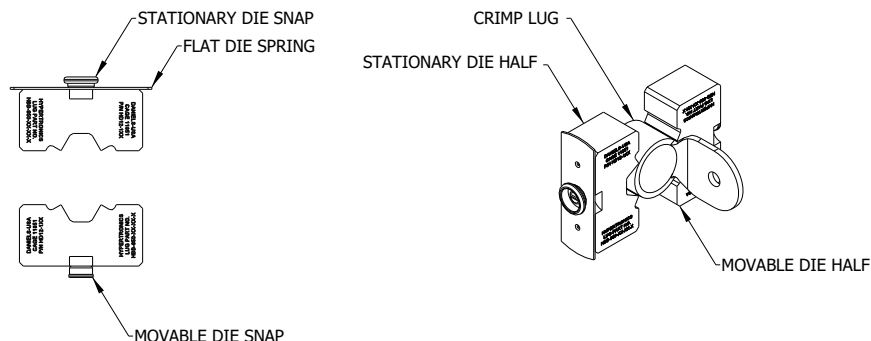

FIGURE 3
2. Place a lug with a conductor fully inserted into the wire barrel, in the nest of the stationary die. See Figure 3.